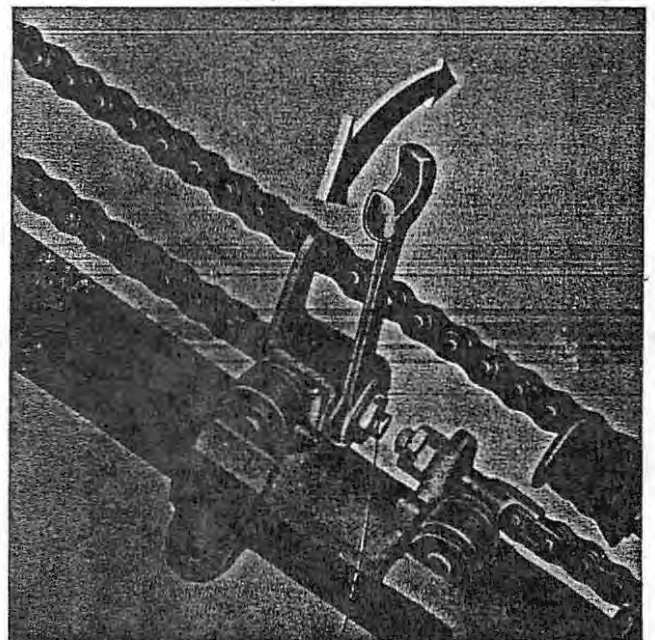

Figure 2-86. Landing Gear Chain Adjustment
- d. Adjust chains to proper tension. See paragraph 2-310 and figure 2-86.
- c. If this distance is not the same on both slides, tighten the adjusting bolt in the slide that is farther away from the bottom stop, (to move the slide up), or tighten adjusting bolt in the slide that is closest to the bottom stop, (to move the slide down) (figure 2-86).